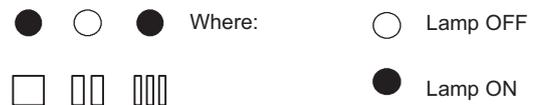

Figure 9.19
- Press the reset button 9 repeatedly (4 times) until the lamps 11 give the indication as in Figure 9.19 (setting the d.h.w. flowmeter mode operation).